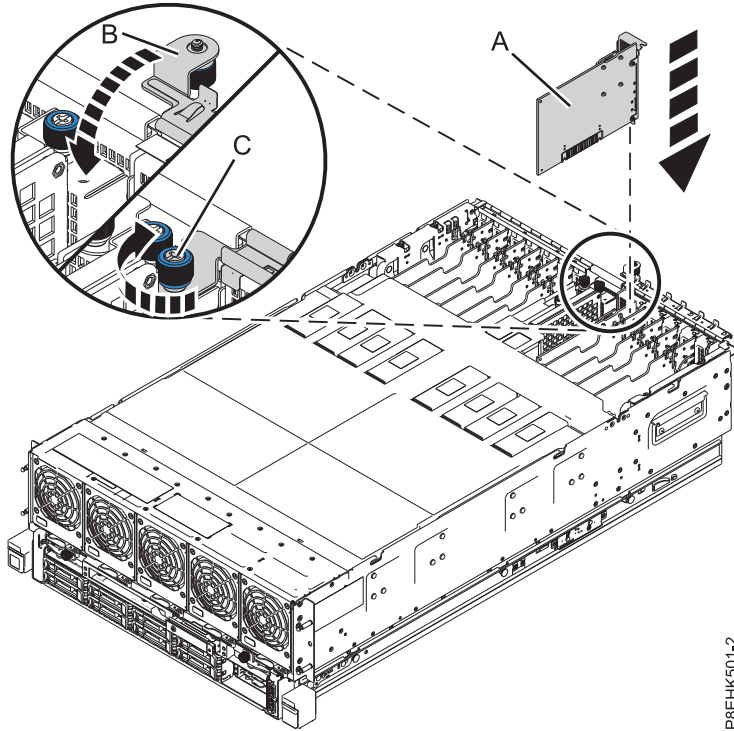

Figure 3. Installing the service processor card into slot P1-C5
- a. Align the service processor card (A) with the guide rails on the system and slide the card into the slot, as shown in Figure 3 on page 7.
- b. Close the right I/O retention bracket by rotating it down. See (B) in Figure 3 on page 7.
- c. Tighten the captive thumbscrew of the right I/O retention bracket until it is secured to the system's chassis. See (C) in Figure 3 on page 7.